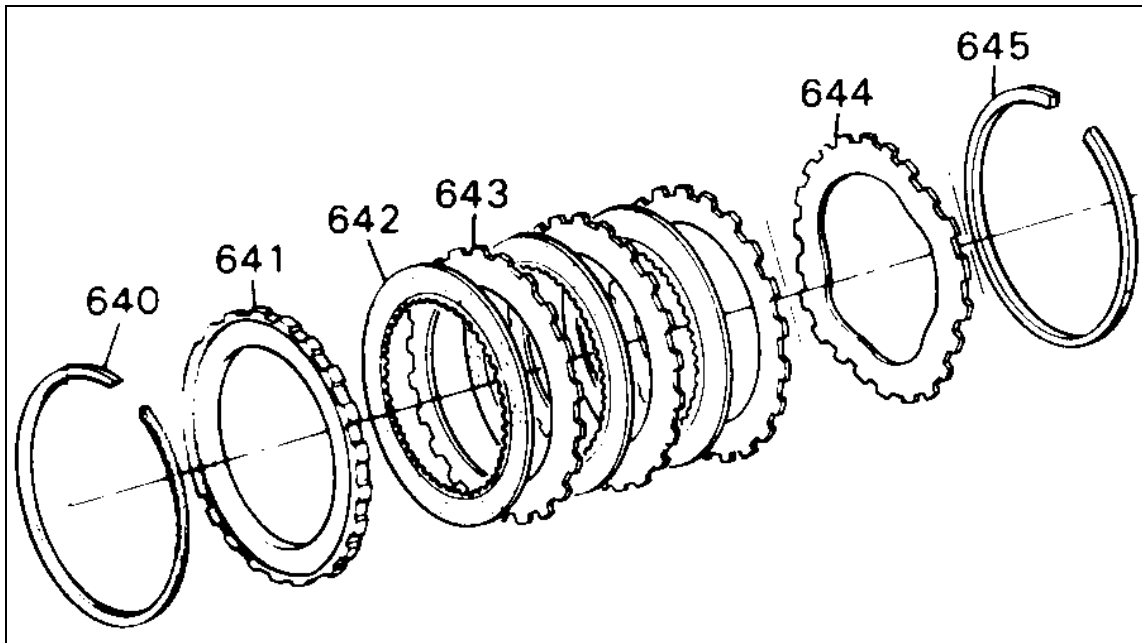

FIGURE 3-59
Remove the beveled snap ring (645) that retains the center support to the case. See Figure 3-58. Grasp and lift up on the center support (654) to remove it from the transmission case. See cut away view in Figure 3-59.
GM FIGURE 3-59